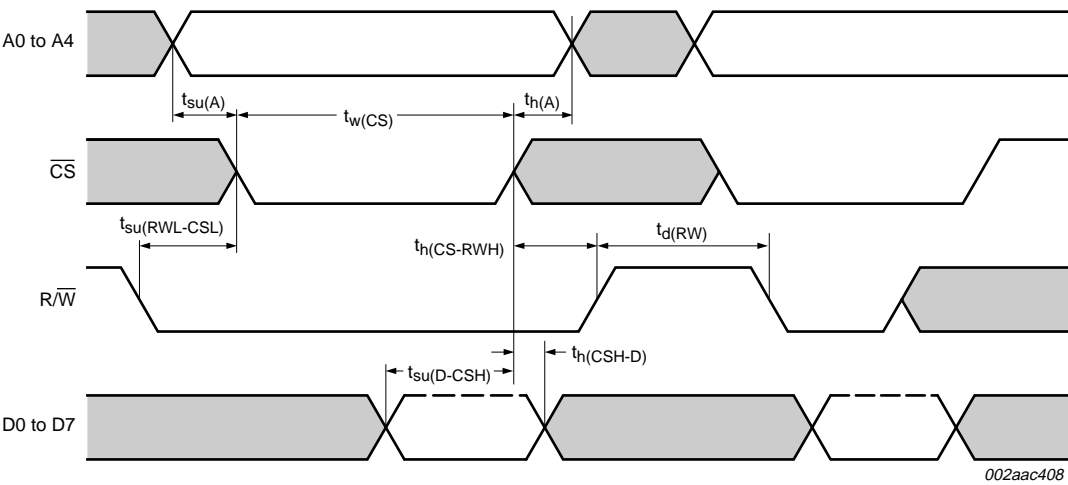

Fig 10. General write timing in 68 mode
(1) CS timing during a write cycle. See Figure 10.